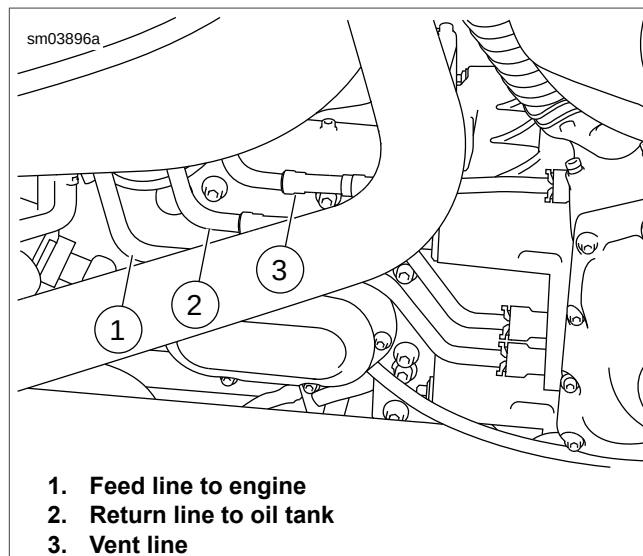
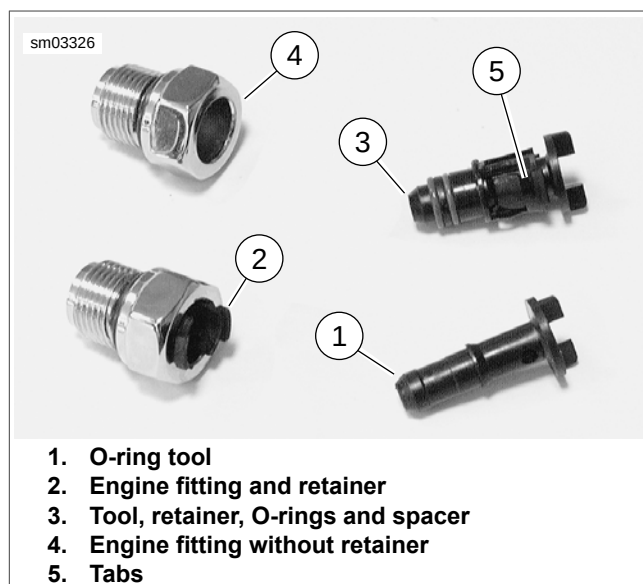

Figure 3-183. Oil Line Fittings/Retainers
Figure 3-184. Oil Line Retainers (Parts Removed From Engine for Clarity)
- See Figure 3-183. Small retainers connect the vent line (3) to the oil tank and to the engine.
- Large retainers connect the feed line to engine (1) and return line to oil tank (2) to the oil tank and to the engine.
- See Figure 3-184. Do not remove oil line retainers from engine fittings or oil tank unless retainers, O-rings, and/or spacers are damaged.